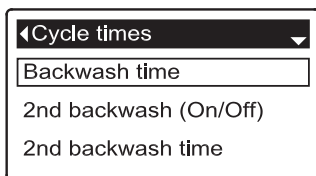

FIG. 128
5. Press the SELECT (O) button to display the Cycle times menu (See Figure 128).
9. Press the SELECT (O) button. The display will go back to the Cycle times menu (Figure 128).